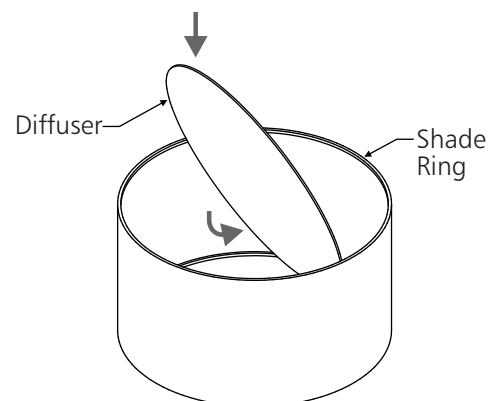

**Fig. 4 - Circuit Wiring Detail**
- Top Diffuser Option: With Top Diffuser sandwiched between, secure Diffuser Cap to Diffuser Hub using (4) #6-32 x 1/4" Undercut Flat Head Phillips Screws. Slide Diffuser Assembly onto Stem. Align top of Diffuser Cap to bottom of Tape and secure to Stem using (1) Set Screw. Remove Tape.
- Thread Stem Coupling Plate onto Stem and secure using (2) Set Screws. Feed Fixture Wire through Stem. Attach Stem Coupling Plate to Band using (6) #10-32 x 1/2" Socket Head Socket Screws. With Stem/Band assembly in upright position, carefully set Top Shade into Band.
- Lift Stem/Top Shade/Band assembly and make secure electrical connections between Fixture Wire and Supply Wire according to local regulations. (Fig. 4 & 8). Insert excess connectors and wire into Junction Box or Surface Mount J-Box. Install (6) A19 E26 LED Bulbs into Sockets. Turn power on and test continuity.
- Attach Ceiling Plate to Junction Plate using (4) #10-24 x 1" Flat Head Socket Screws or to Surface Mount J-Box using (4) #10-24 x 1/2" Flat Head Socket Screws. Attach Ceiling Plate to reinforcing using (4) #12 x 3" Flat Head Wood Screws.